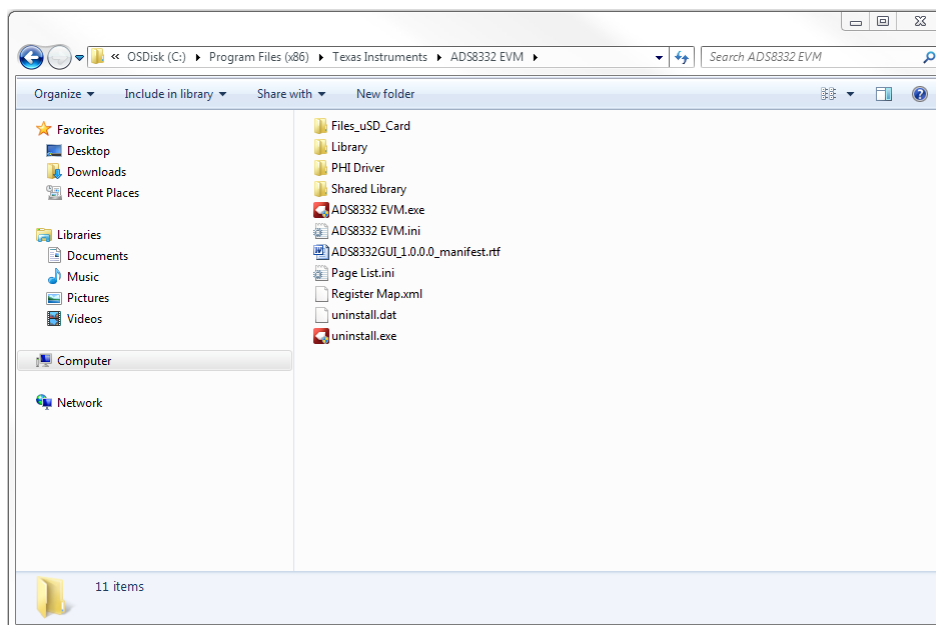

Figure 9. Launch the ADS8332EVMV2 GUI Software
3. Double click on the ADS8332 EVM.exe file to launch the EVM GUI, as shown in Figure 9.